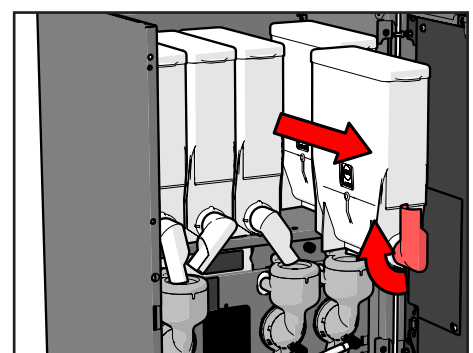

Figure 37.
7. Turn the canister spouts upwards and remove the canisters from the machine one by one (see Figure 37).